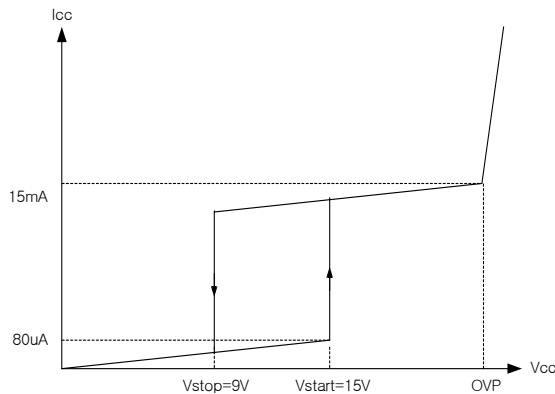

Figure 1. Start up with hysteresis
1. Start up : To guarantee stable operation of the control IC, FS8S0965RCB has UVLO circuit with 6V hysteresis band. Figure 1 shows the relation between the supply current (I_{cc}) and the supply voltage (V_{cc}). Before V_{cc} reaches 15V, the FPS consumes only startup current of 80 μ A, which is usually provided by the DC link through start-up resistor. When V_{cc} reaches 15V, the FPS begins operation and the operating current increases to 15mA as shown. Once the control IC starts operation, it continues its normal operation until V_{cc} goes below the stop voltage of 9V